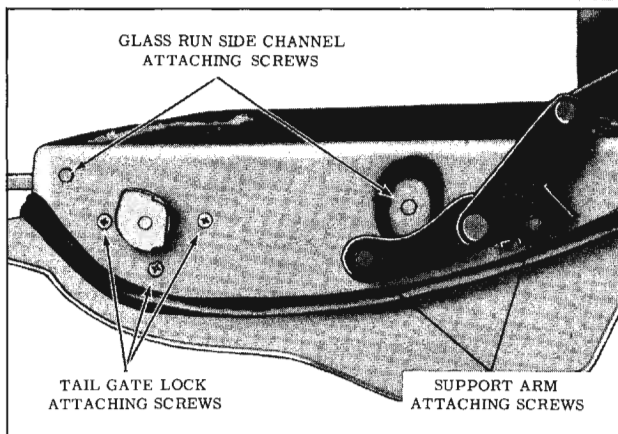

Fig. 16-199 Tail Gate Lock and Support Arm
2. Remove tail gate window glass run side channel attaching screws and remove channel from side of tail gate from which lock is being removed. (Fig. 16-199 and 16-201)
connecting rod to remote control, gently pull connecting rod towards remote control lever to seat bellcrank lever at lock. Turn remote control lever adjusting screw until hole in lever is aligned with end of connecting rod; then install connecting rod to lever. (Fig. 16-199)